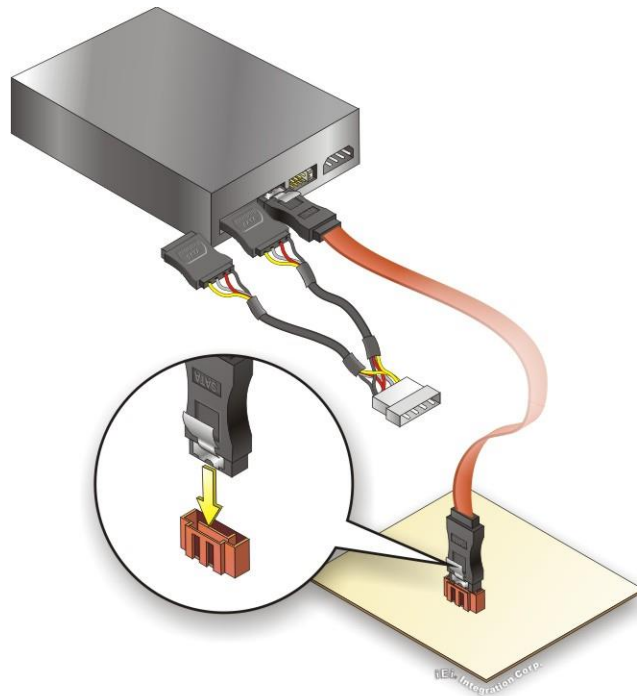

Figure 4-2: SATA Power Drive Connection
Step 3: Connect the cable to the SATA disk. Connect the connector on the other end of the cable to the connector at the back of the SATA drive. See **Figure 4-2**.
Step 4: Connect the SATA power cable. Connect the SATA power connector to the back of the SATA drive. See **Figure 4-2**.